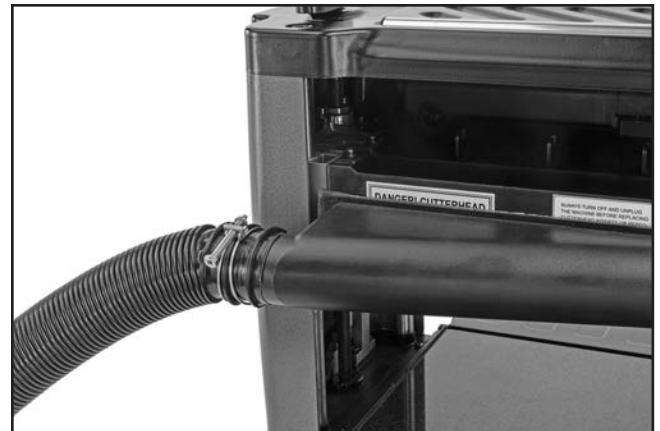

Figure 12. Dust hose installed onto dust port.
1. Fit 2" dust hose over dust port and secure with hose clamp (see **Figure 12**).